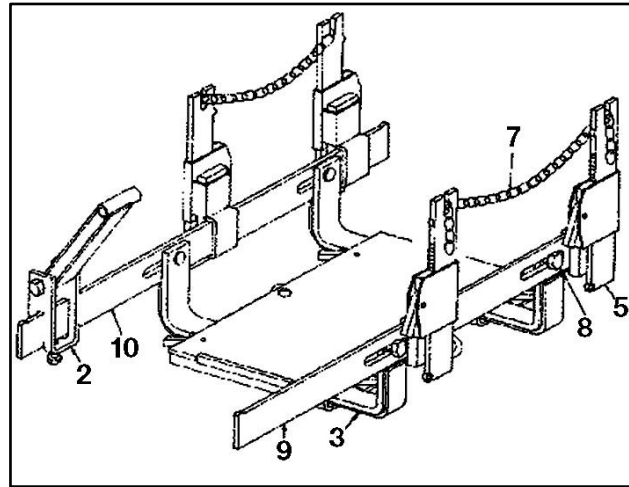

**Fig. 13: Universal support bars**
The universal support bars (1), (9), and (10) are equipped with two lengthwise slots in each bar, through which cap screws can be inserted to bolt the bar to the holes in the upper part of the transmission brackets. Each universal support bar (1), (9), or (10) is equipped with two sliding mounts on which the adjustable vertical supports (5) can be mounted. This makes it possible to independently move each vertical support forward or backward. The long support bars (1) are most suitable for long components such as automatic transmissions. The short support bars (9) and (10) are adequate for most components and help eliminate interference problems that are sometimes encountered with the long bars. These bars are illustrated in Fig. 13 below.